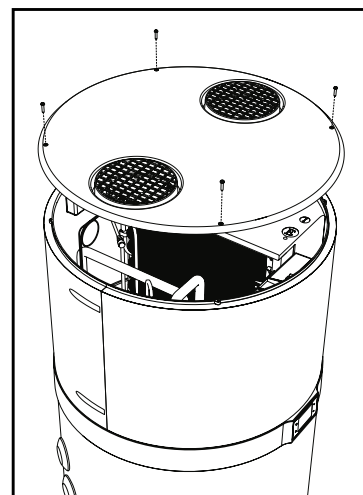

fig. 74- Top cover removal
- Remove the top cover by first undoing the locking screws (fig. 74).